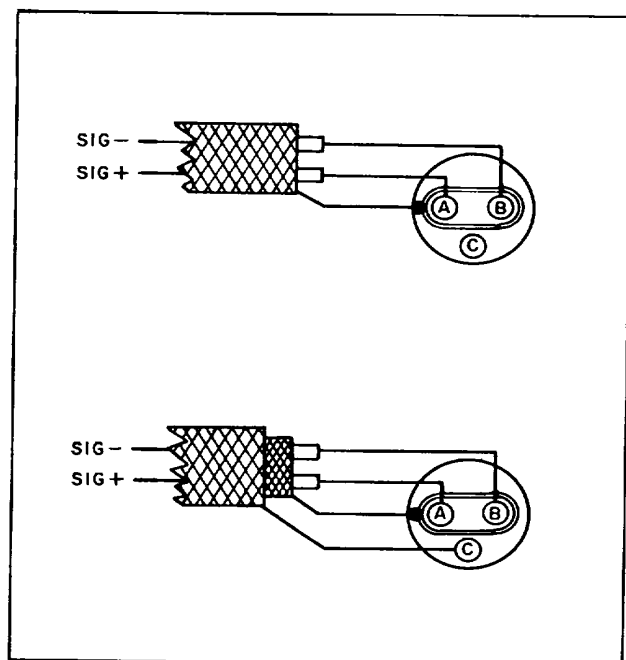

Figure 2-6. Input Connector Wiring, Guarded
- Solder the cable center conductors to pins A and B. See Figure 2-6.